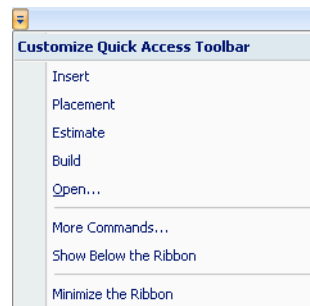

Figure 5-84: *Customize Quick Access Toolbar* menu
- From the *Customize Quick Access Toolbar* menu (see figure 5-84 on page 59), select *More Commands*.